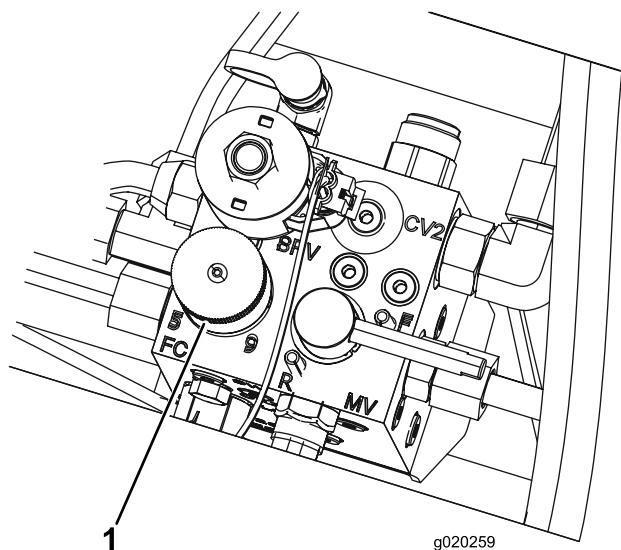

Figure 32
4. To set the reel speed, rotate the knob (Figure 32) until the indicator arrow is in line with the number designating the desired setting.